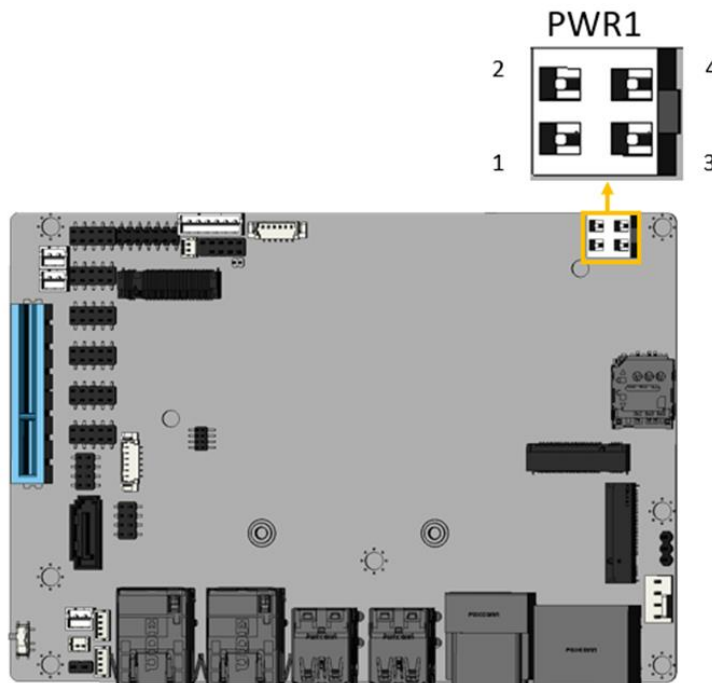

Figure 3-7: ATX 12V Power Connector Location
- CN Location:** See Figure 3-7